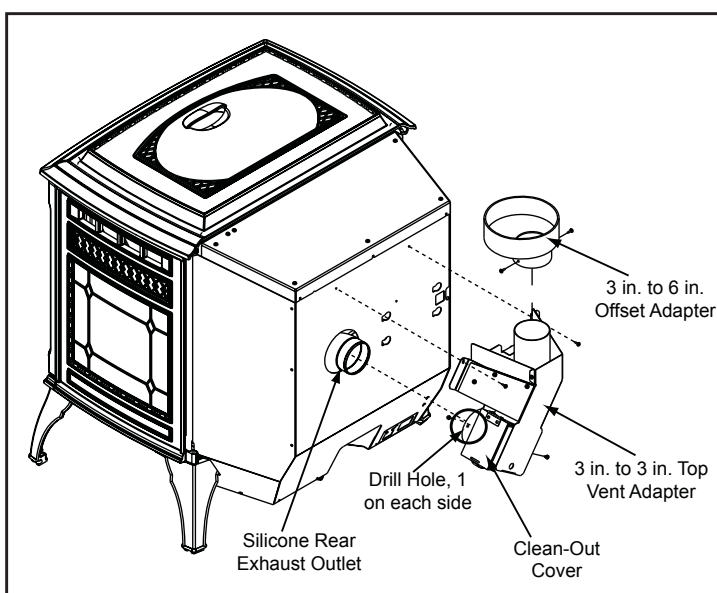

Figure 20.1
1. Put a layer of high temperature silicone on the 3 inch (76mm) exhaust outlet. **Do not put silicone inside of pipe. Figure 20.1.**
2. Slide the top vent adapter onto the rear exhaust outlet and adjust the assembly to a vertical position until the top of the flue outlet is centered and is in a level position. **Figure 20.1.**